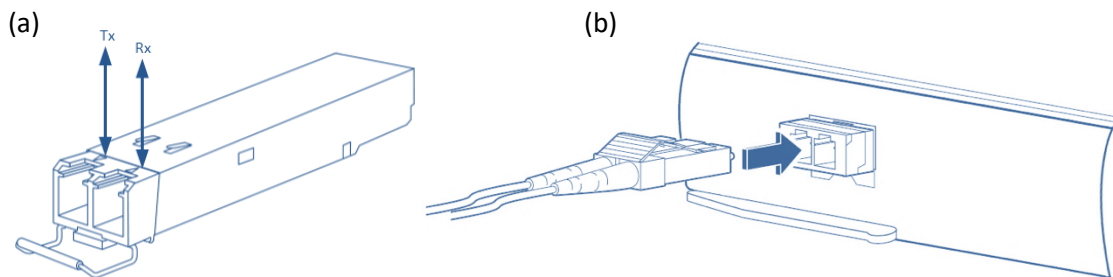

Figure 7 – Interface connecting to the SFP+ Module
- d) On Fiber channel 0 both the TX and RX fiber cables must be connected. On channels 1 through 3 only one fiber cable should be connected. This cable is connected between TX output (Marked with TX or Arrow outwards the SFP+) on the KY-FXP-II-D and RX input (Marked with RX or Arrow inwards the SFP+) on the Komodo II CoaXPress over Fiber Frame Grabber, as shown in Figure 7 (a).
3. Insert the fiber cable into the module, as shown in Figure 7 (b).